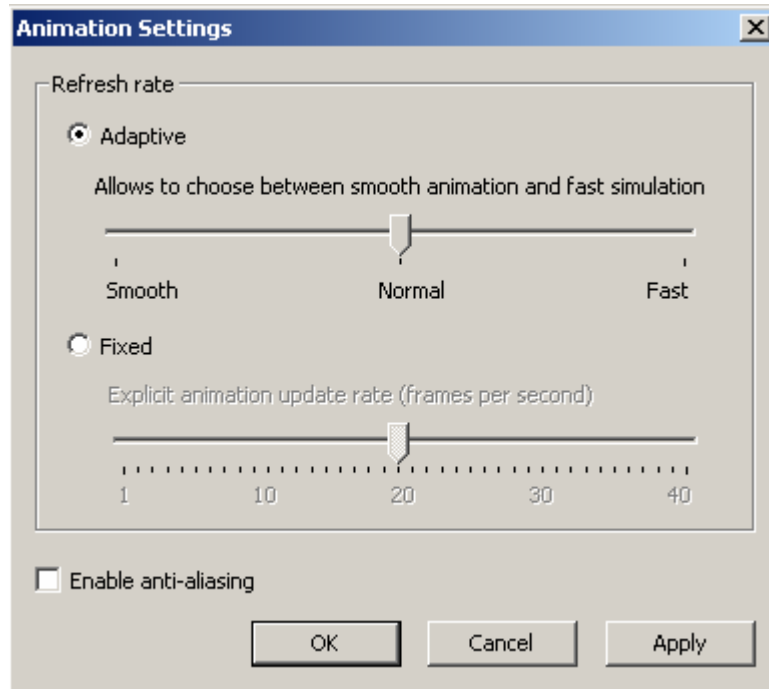

Figure 152. Animation Settings dialog box
1. Click the *Animation Settings*  toolbar button, or Choose *Model|Animation Settings...* from the main menu. The *Animation Settings* dialog box is displayed, as shown in Figure 152.
1. Click the *Animation Settings*  toolbar button, or Choose *Model|Animation Settings...* from the main menu. The *Animation Settings* dialog box is displayed, see Figure 152.